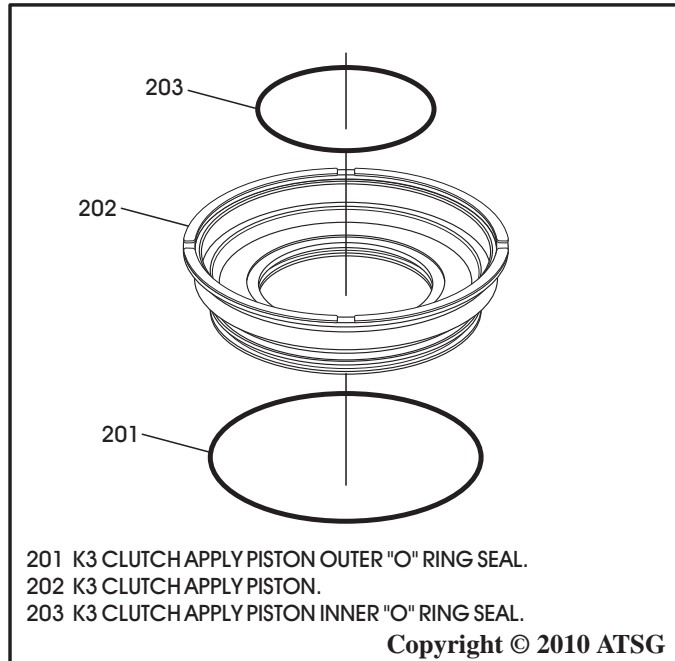

Figure 134
4. Install new inner and outer "O" ring seals onto K3 clutch apply piston and lube with a small amount of Trans-Jel® (See Figure 134).